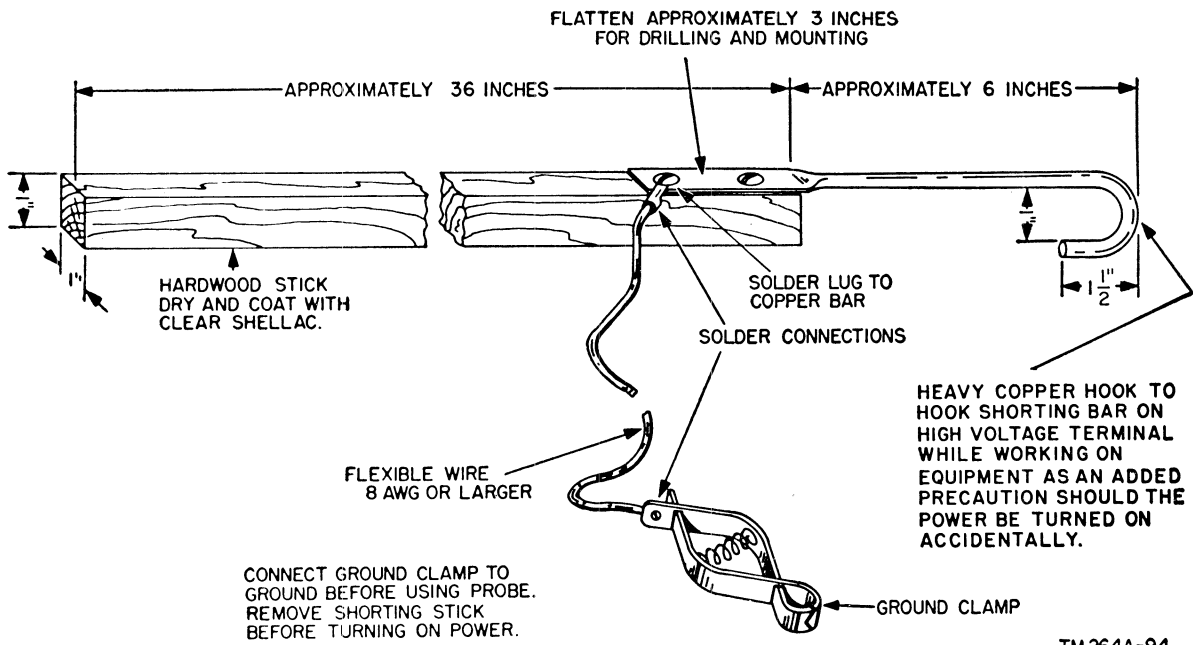

Figure 22. Construction of shorting stick.
(1) Secure a dry piece of wood or some other material which is a good electrical insulator (fig. 22). It should be about 36 inches long and about 1 inch square. The latter dimension is not very important.
(2) Securely fasten a piece of copper or brass rod (or thin tubing) to one end of the stick in such a manner that the rod extends 12 inches beyond the end of the stick. The free end of the rod should be bent in the form of a small hook.
(3) Solder a piece of heavy, flexible hookup wire about 18 inches long to the metal rod where it is fastened to the stick.